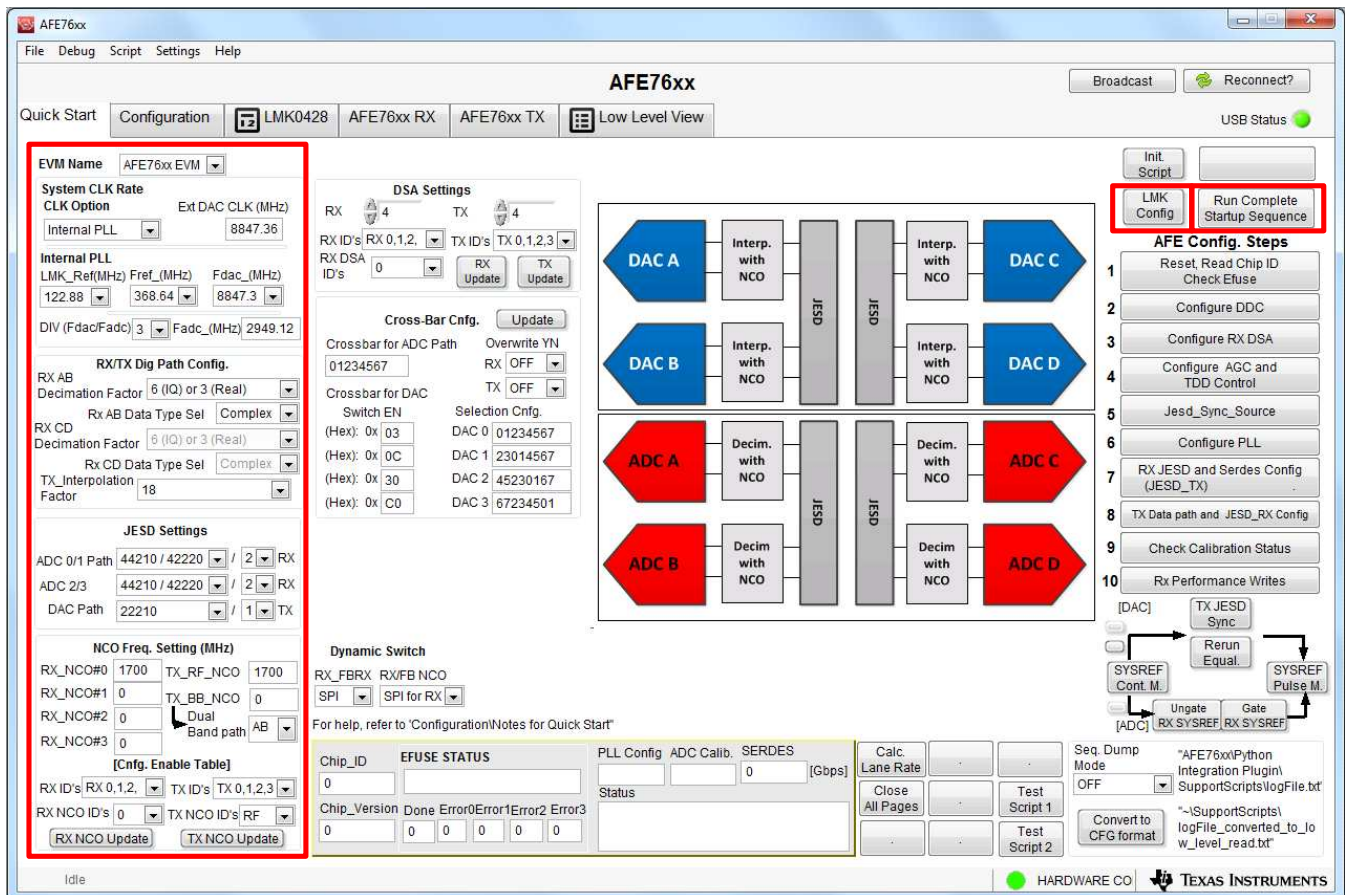

Figure 11. AFE76xx GUI Execution
10. Go to the Main tab (see Figure 11).
1. Fill the sections highlighted in Figure 11, including the proper decimation and interpolation mode, JESD setting, and NCO frequencies.